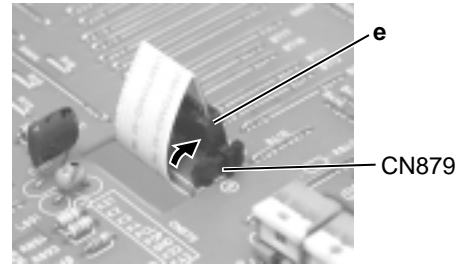

Fig.16
2. Disconnect the card wire from connector CN879 on the main board (Before pulling out the card wire, stand the part **e** of CN879 as shown in Fig.16).